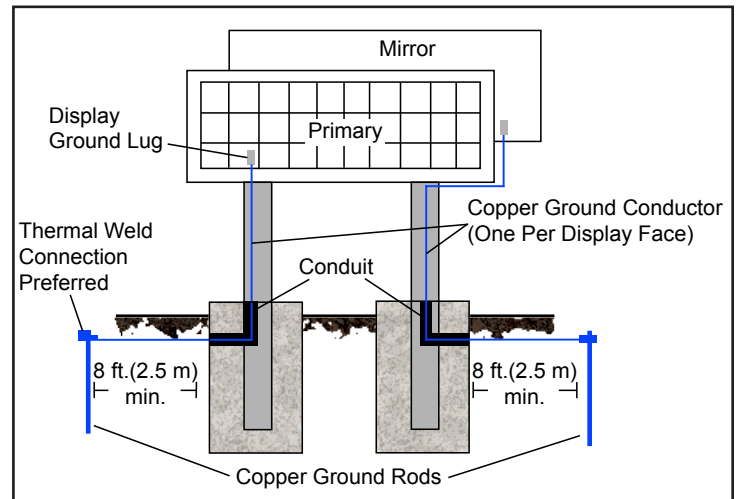

Figure 7: Proper Display Grounding
1. Install an earth-ground electrode (ground rod, ground plate, etc.) near the base of the display. Refer to **Figure 7** for guidelines.